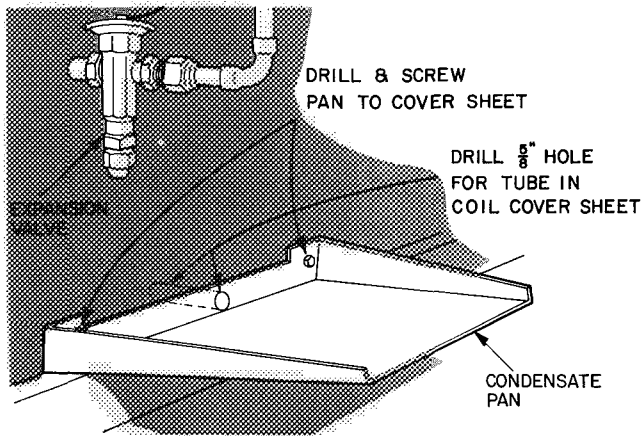

Fig. 17 – Expansion Valve Condensate Pan
- Install condensate pan(s) under expansion valve(s) per Fig. 17.